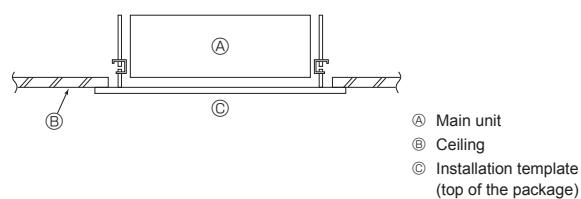

Fig. 3-7
3.6. Confirming the position of main unit and tightening the suspension bolts (Fig. 3-7)